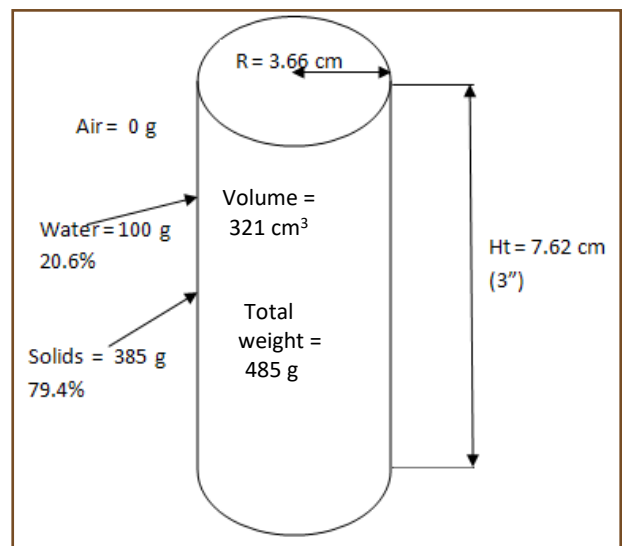

Figure 11.—Example soil core dimensions, volume, and weight, by component.
\*Soil bulk density = [(a - b) x (1 + h)] ÷ volume of soil core (volume of soil core = 321 cm3 for 3-inch core, 2 inches from top of soil to top of ring; refer to volume calculations on following page and to figure 11).
**(Step 1) Volume of soil core (cm3) (see figure 11):** πr2 x height